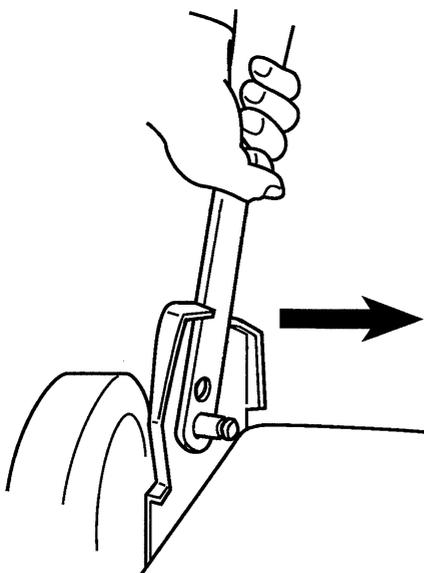

Figure 36
1. Push in right bottom handle section until handle slides past stops of handle brackets (Fig. 36).